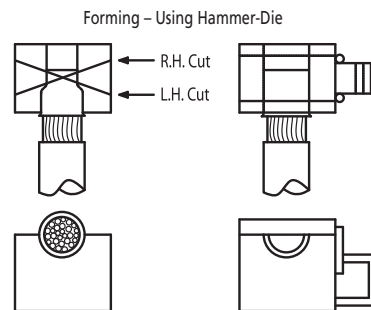

FIGURE 16
- Mark terminal using saw cut in hammer die when provided. Trim bond at mark. See Figure 16.